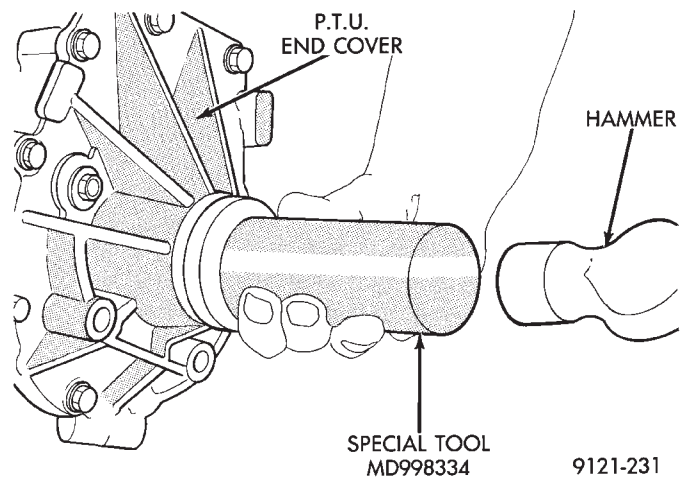

Fig. 7 Installing New Seal
(3) Install new output seal using MD998334 seal installer (Fig. 7). **Do not reuse the old seal.**
(4) Reinstall right front half shaft.
(5) Check and fill fluids as required.